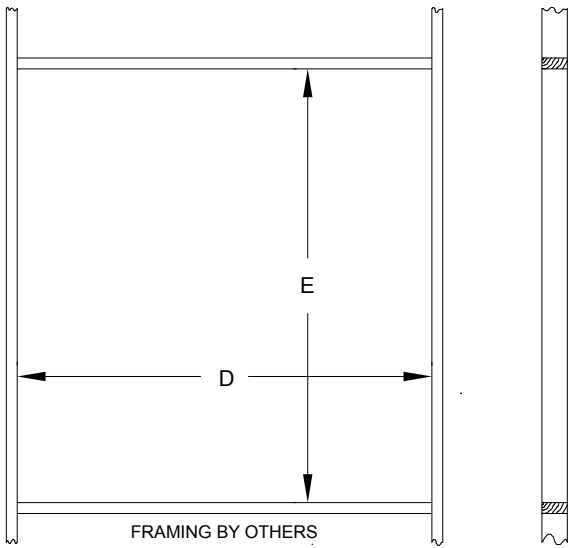

FIGURE 8
Provide an opening in the wall of the building as shown in Figure 8 using the D and E dimensions shown in the table below.
**SPECIAL NOTE:** *Attach the fan to the inside of the wall opening using lag bolts provided by others. Also place lag bolts through the wall attachment brackets into the wall to secure the frame assembly to the wall for additional stability. See Figure 8.*
**CAUTION!** Guards are strongly recommended when the fan is installed within eight (8) feet of the floor, working level or within reach of personnel. Guards complying with OSHA regulations are available as optional equipment. Review OSHA Codes and obtain a quotation.